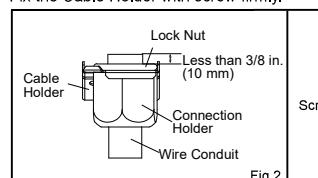

Fig.2
- (1) Process the end of the connecting cable for the indoor side.
- (2) Take off the Cable Holder from the backside of the indoor unit.
- (3) Take off the Connection Holder from the Wire Conduit and attach the Connection holder to Cable Holder with Lock Nut. (Fig.2)
- (4) Make the connecting cable get through the Cable holder.